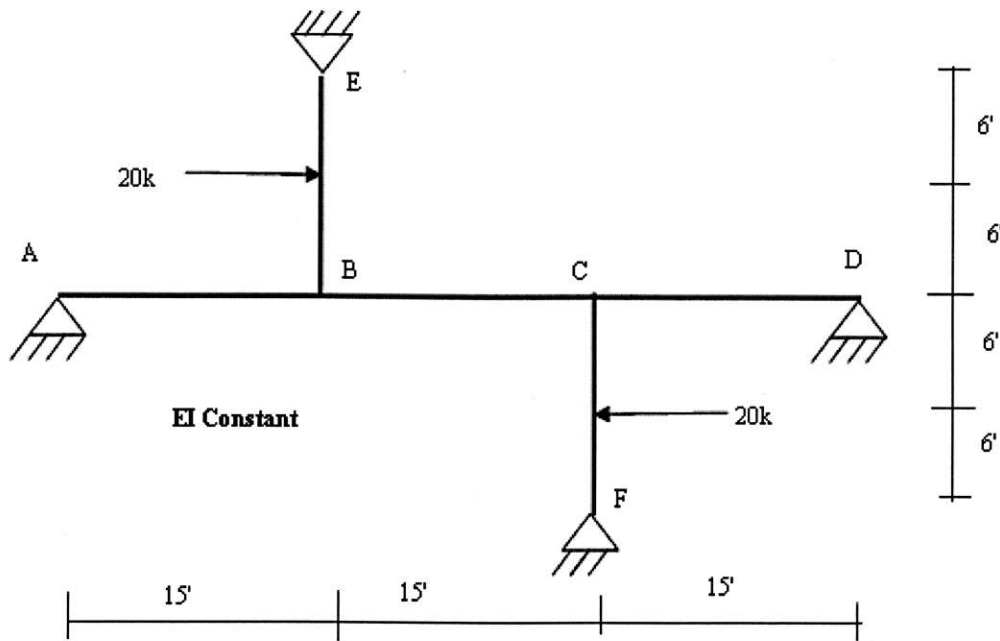

Figure 12
- 12 Analyze the frame of **Figure 12** using **Moment Distribution Method** and draw shear force and bending moment diagram.